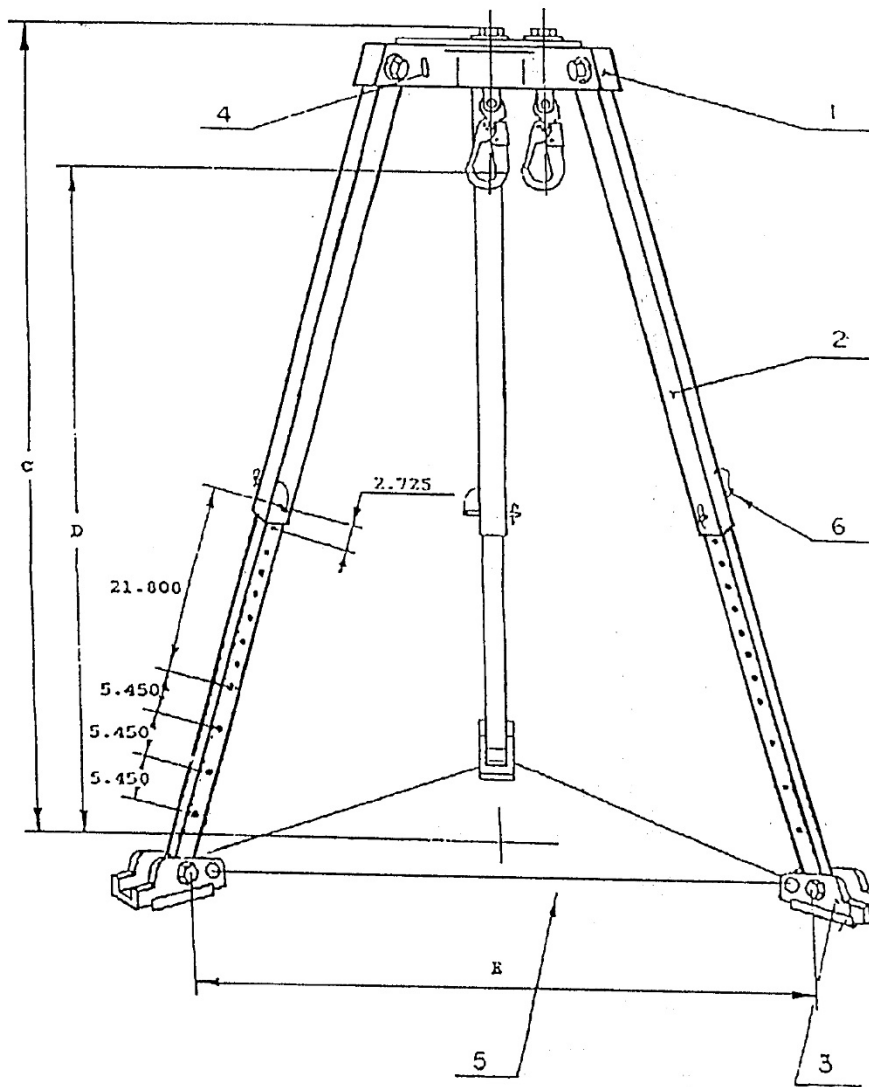

Figure 6. The parts of the Tripod, P/N 5003 / 50039
The P/N 5003/ 50039 Tripod is a portable, lightweight, high-strength anchor point for confined space and rescue equipment. The major parts of the Tripod are illustrated in Figure 6 and described below.
Refer to Figure 3 for illustrations of the geometric parameters of the Tripod and Figures 6 and 9, for explanations of the dimensions listed below.
Assembly (refer to Figure 6)
3. After unlocking leg hinges (4) in the Tripod head (1) by turning each pin handle, gradually push each leg (2) to the Tripod center point and embrace all three legs (2). Lower the Tripod, to the ground.
4. Pull the leg lock pins (6) and push the lower leg sections into the upper leg sections. Lock the contracted legs (2) in the storing position with the lock pins (see Figure 6).